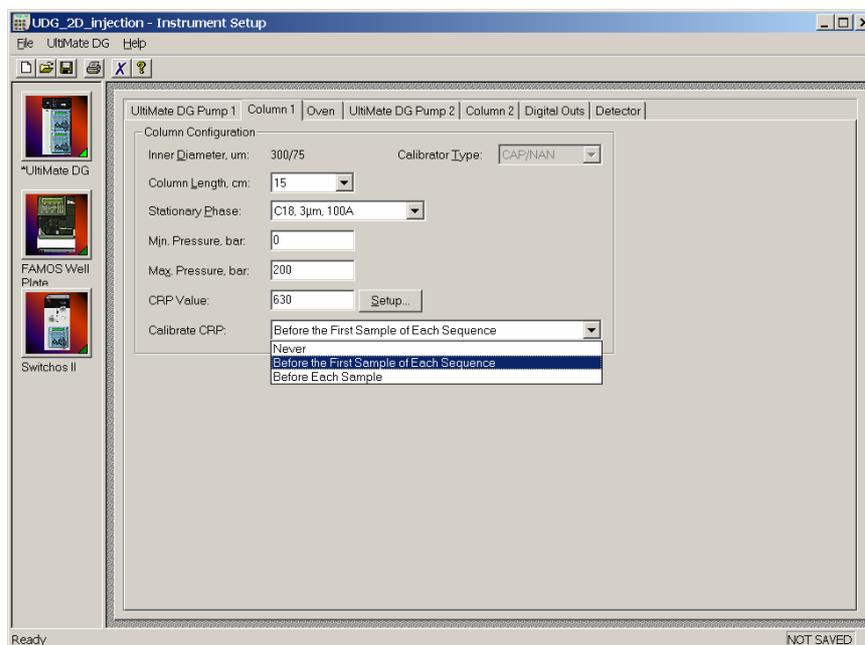
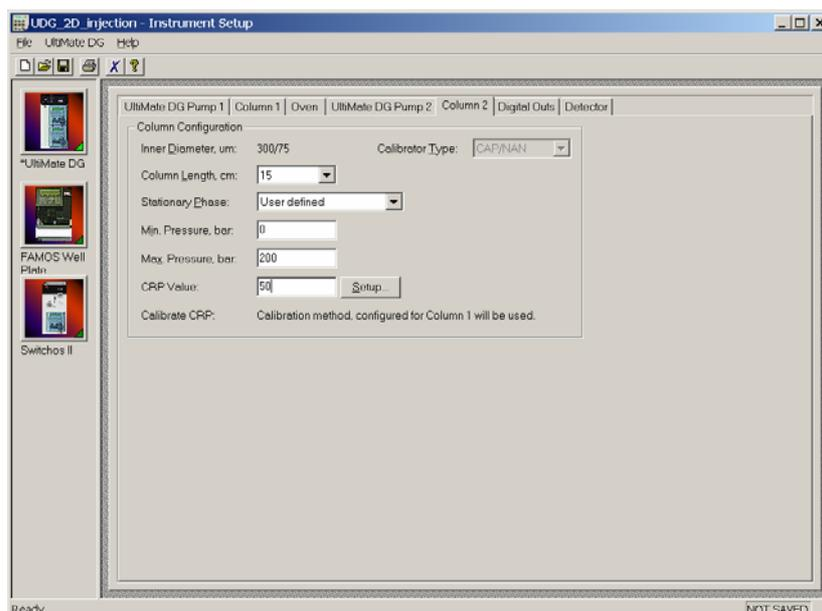

FIGURE 3-6 The Column 1 (Nano Column) Parameters Setup Window
FIGURE 3-7 The Column 2 (IEX column) Parameters Setup Window
- d) Choose the **Column 1** and **Column 2** tabs to display and to setup the column parameters and the CRP correction mode as discussed in Section 2.5.2 B. The following pictures present a typical setup for the column 1 (Nano column) (FIGURE 3-6) and column 2 (IEX column) (FIGURE 3-7).